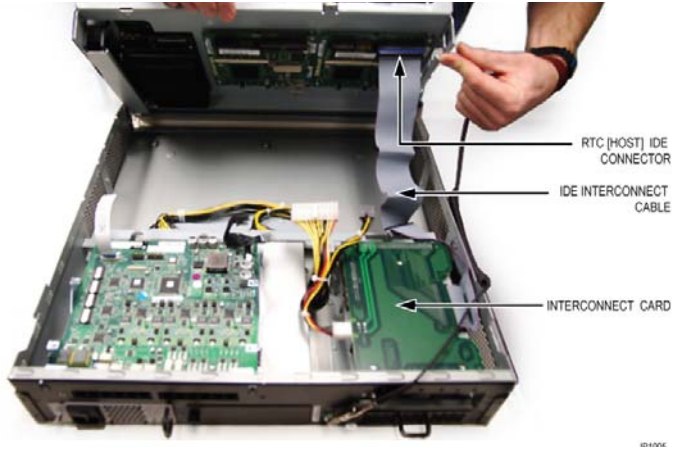

Figure 38: Disconnecting the IDE Interconnect Cable - MXe II
- For the MXe II, disconnect the IDE interconnect cable from the RTC (host) IDE connector (see Figure 38).